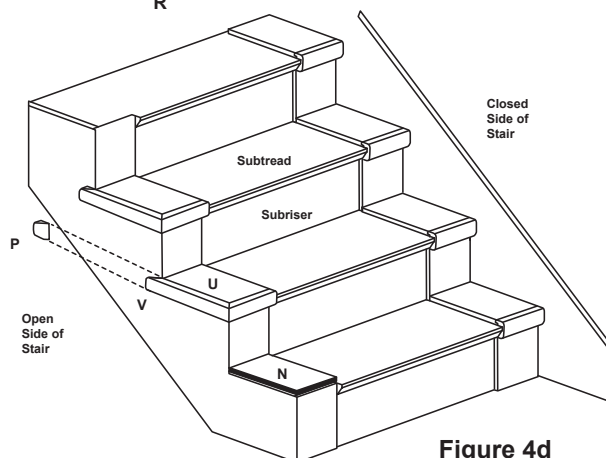

Figure 4d
1. Place the false treads on the open side of the stair and mark the length needed from the face of one false riser to the face of the next false riser. **NOTE: Always place the false tread on the stair with the non-grooved edge towards the middle of the stair. Also note that the tread has a Bottom side as indicated with a stamp.** Cut and fit the false treads to length for the open side of the stair **N**. (See Figure 4d.)